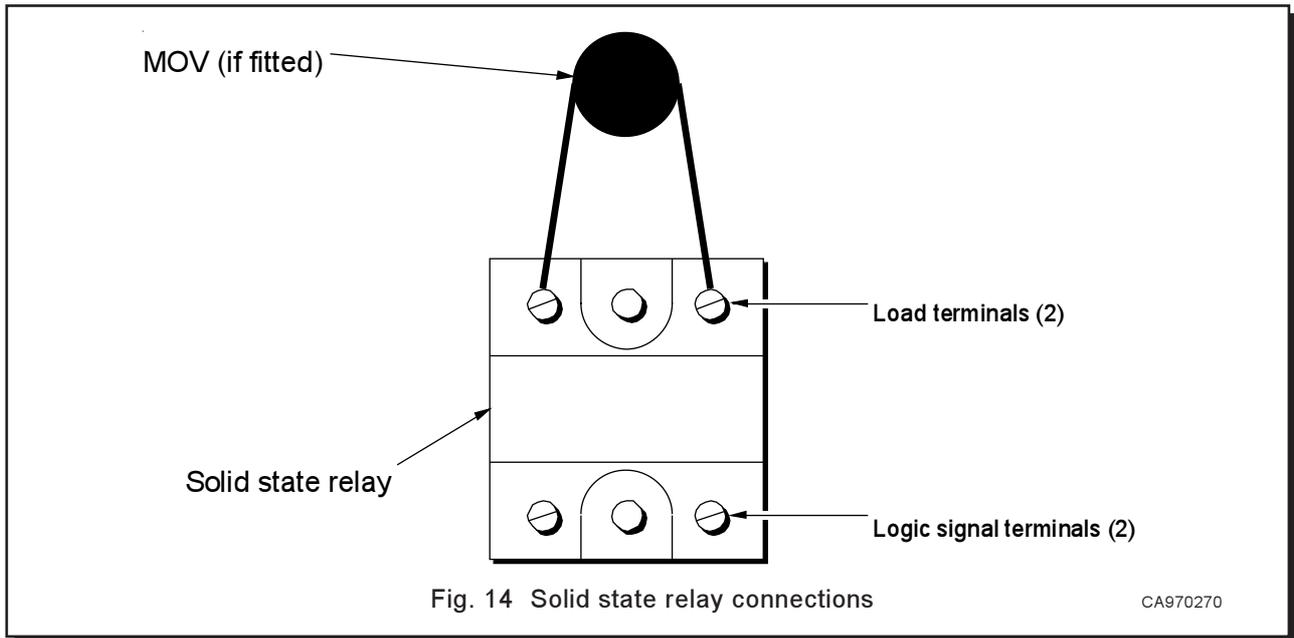

Fig. 14 Solid state relay connections
- (vi) Refit the wires as noted in (iii) above. If the replacement solid state relay is supplied with a metal oxide varistor (MOV) it must be connected between the load terminals as shown in Fig. 14. It is not polarity dependent.